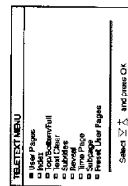

Fig. 42
- 1 Press MENU. The menu will be superimposed on the teletext display. (See Fig. 42).